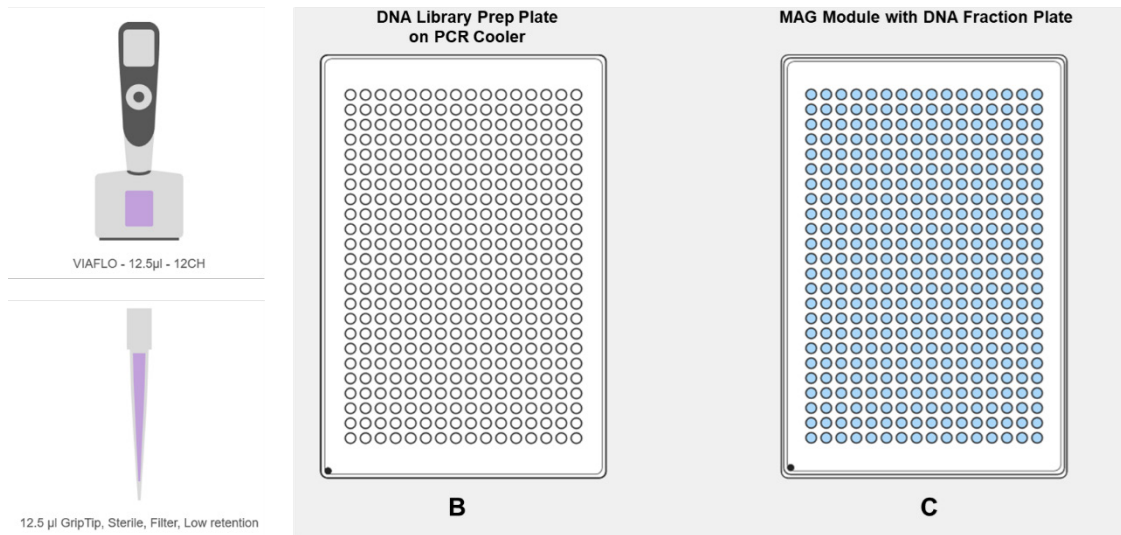

Figure 18: RO384_08D_LPDNA.
1. To create the DNA Library Prep Plate, place an empty 384-well plate labeled “DNA Library Prep Plate” in a PCR cooler on Position B on the deck. Place the DNA Fraction plate on the 384-well MAG Module in Position C (Figure 18). Ensure the MAG Module is turned on.